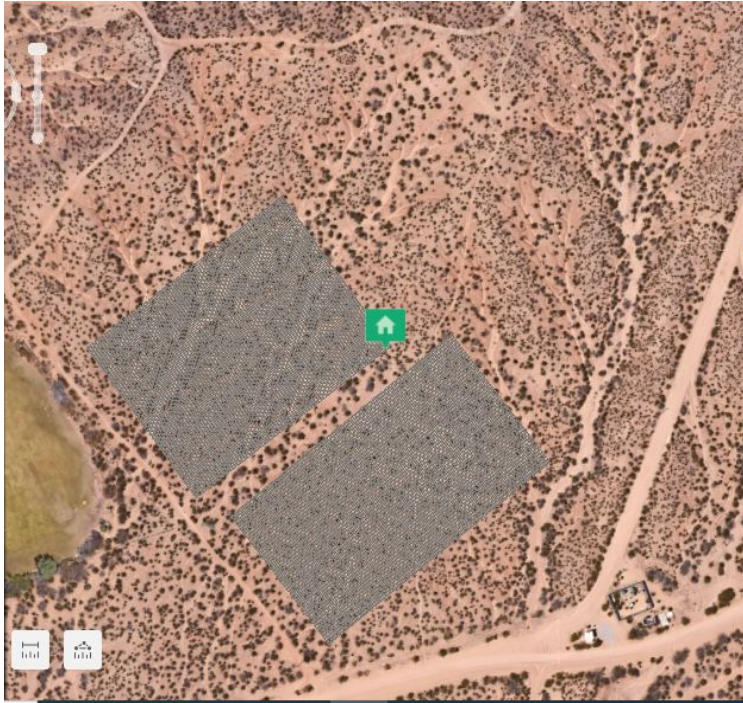

Figure 1: Dirt Lot Design
- a. Dirt lot next to the Geothermal Substation [Figure 1]